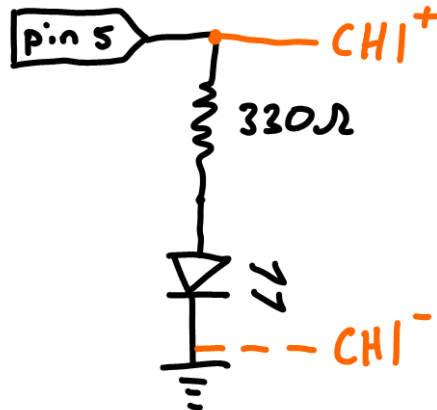

Figure 1: Yet another LED circuit. Be sure to use pin 5.
1. Construct the circuit shown in Figure 1. Use Equation 2 to calculate the theoretical duty cycle and record it in Table 2 for each of the values there.